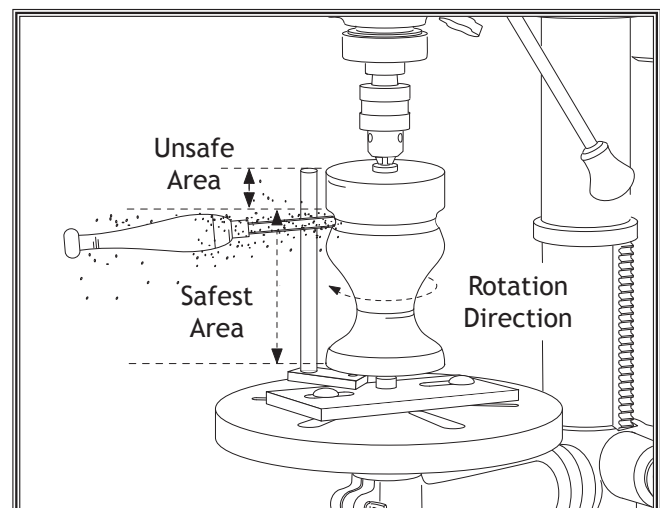

Figure 7. Typical turning operation.
11. Keeping the chisel within the safest working area shown in **Figure 7**, carefully slide the chisel up and down along the tool rest to shape the wood. Keep in mind that the closer the chisel moves toward the end of the tool rest the easier it is to slide the chisel off of the end. Working closer to the end of the rest can also increase tool chatter. As workpiece diameter decreases, re-adjust the tool rest as required to keep the gap at a safe minimum.